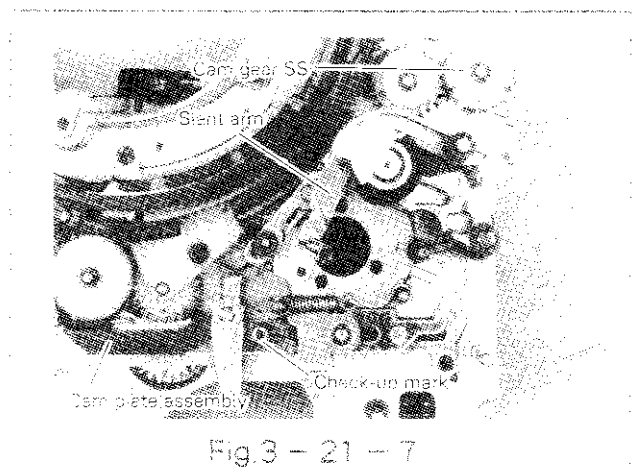
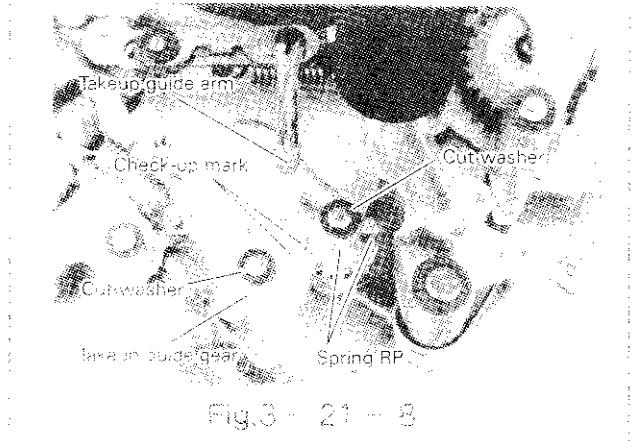

Fig.3-21-7
Fig.3-21-8
- (1) Turn the cam gear SS clockwise to the point where the slant arm comes to a stop. (See Fig. 3-21-7).
- (2) Match the check-up marks on the cam plate assembly.
- (3) Attach the spring RP to the main plate so that one end (longer one) goes to set on the mark (shown only) used for the pinch roller spring on the main plate. (See Fig. 3-21-8).
- (4) Attach the Takeup guide arm and the Takeup guide gear onto the main plate so that their check-up marks are fitted and the other end of the spring RP (shorter side) is hooked by the notch of the Takeup guide arm, then fix with the cut washer.